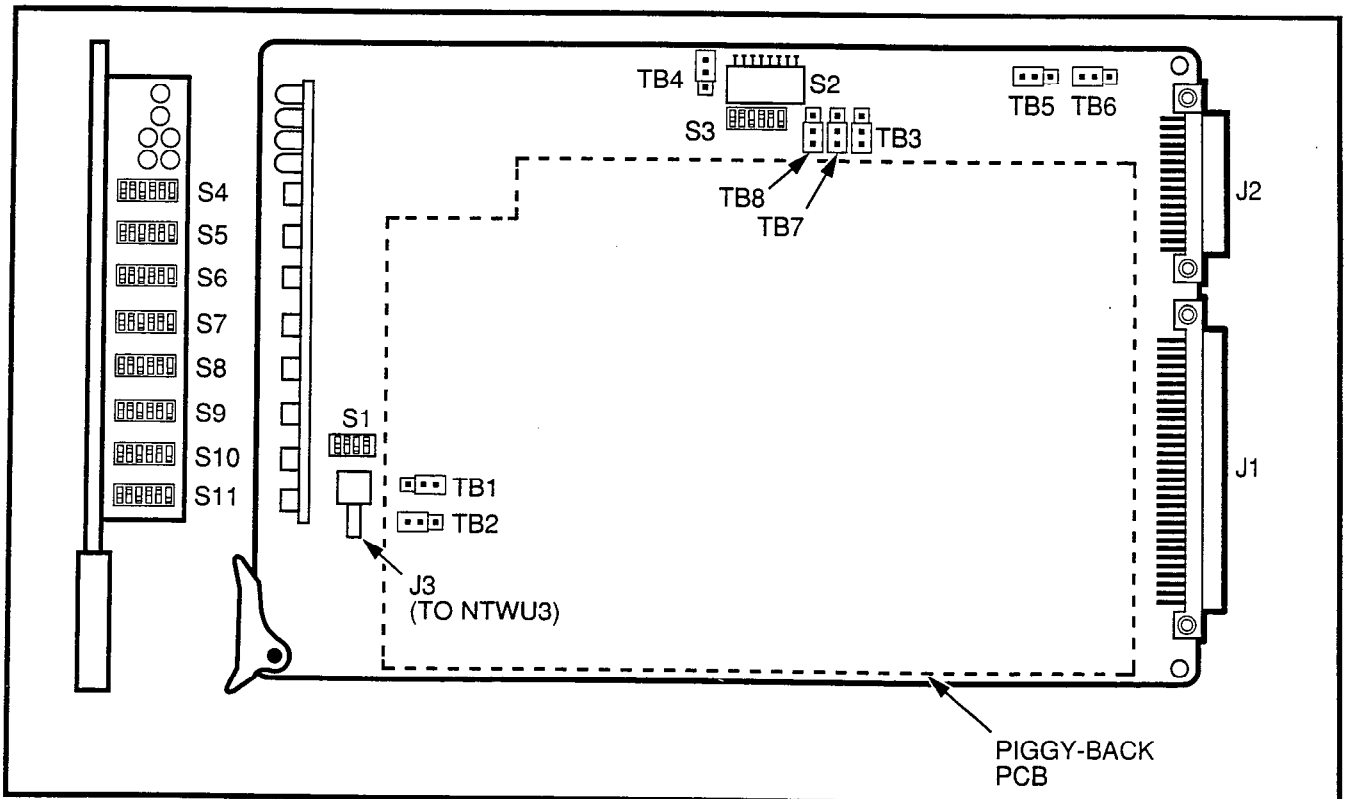

FIGURE 4-21—NDTU STRAPPING
3.81 A maximum of two NDTU PCBs (Figure 4-21) may be installed. The system must be equipped with an NTWU-3 to ensure proper operation of the NDTU. The NDTU is connected to the telco through a customer-supplied Channel Service Unit (CSU). A separate CSU is required for each NDTU. Each NDTU has 11 DIP switches and 8 strapping options, which must be verified before installation.